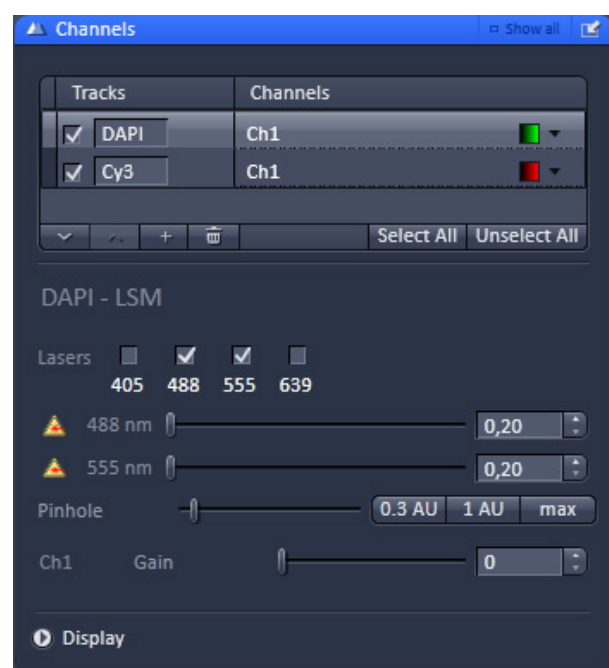

Fig. 24 Channels tool
- Set the **Pinhole** to **1 AU** (Airy Unit) (Fig. 24).
- When the image is saturated, Laser Power in the **Laser** control section of the **Channels** tool (Fig. 24) using the slider to reduce the intensity of the laser light to the specimen.
- Reduce the **Gain** (Fig. 24) until the red pixels only just disappear.